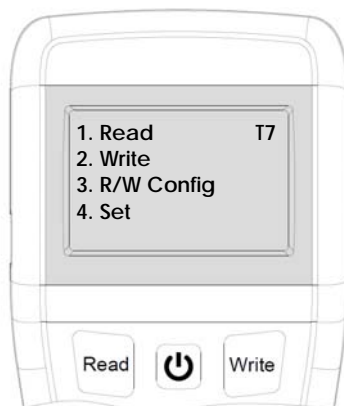

Figure 14
1. Switch on the programmer, then press button **"3"** then display **"Sensitivity and Span (m)"** (Figure 14).